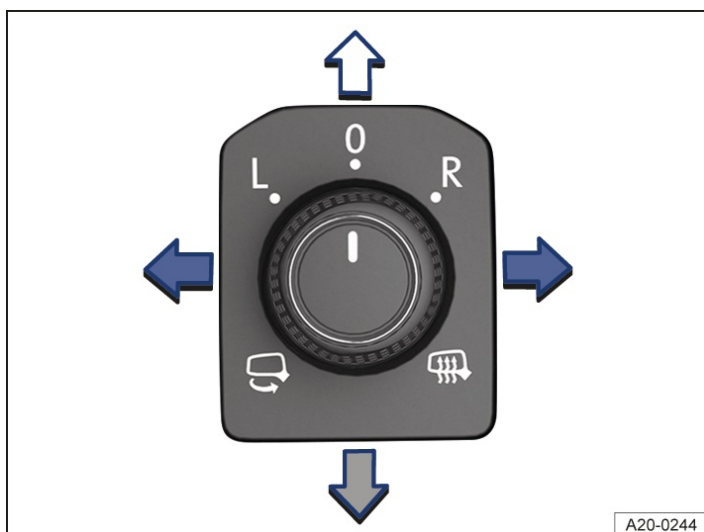

Fig. 1 In the driver door: rotary knob for the exterior mirrors.
2. Turn the rotary knob in the driver door to the desired symbol → *Fig. 1*.